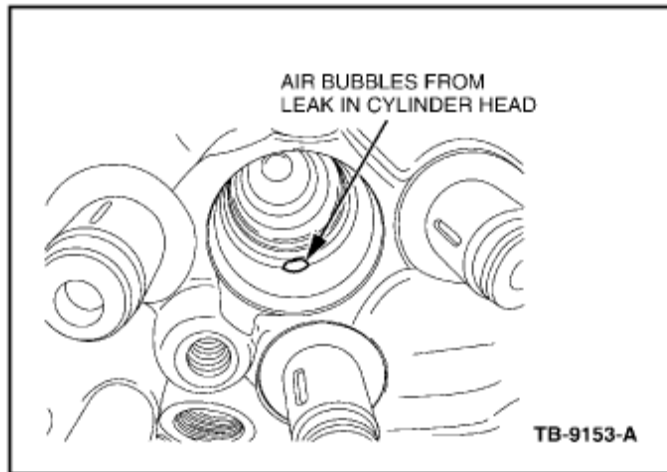
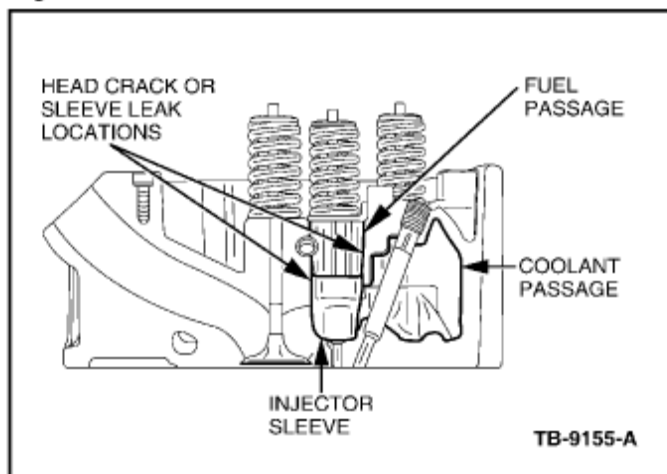

Figure 2
Figure 3
6. Inspect each injector bore for bubbles. (A light and mirror or bore-scope may aid in pinpointing a leak location.) If bubbles are observed, determine if bubbles originate from the injector sleeve lip (Figure 1) or cylinder head casting. (Figure 2) Refer to cutaway view of the cylinder head. (Figure 3)